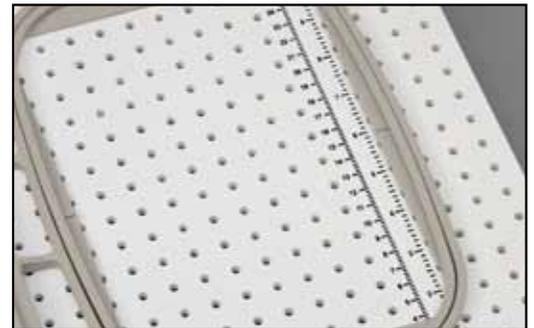

Fig. 2
2. Use the two rows of measurement lines on the Hooping Station to position your hoop the distance from the edge of the item to be embroidered that you wish. Place the horizontal centerline mark on the edge of your hoop at whatever measurement you want. Next, if you want the hoop centered with the Hooping Station, you may align the vertical centerline marks with the centerline groove on the Hooping Station. This step is optional. Now you may set the brackets to the hoop so that the hoop is held in position. **Fig. 2**